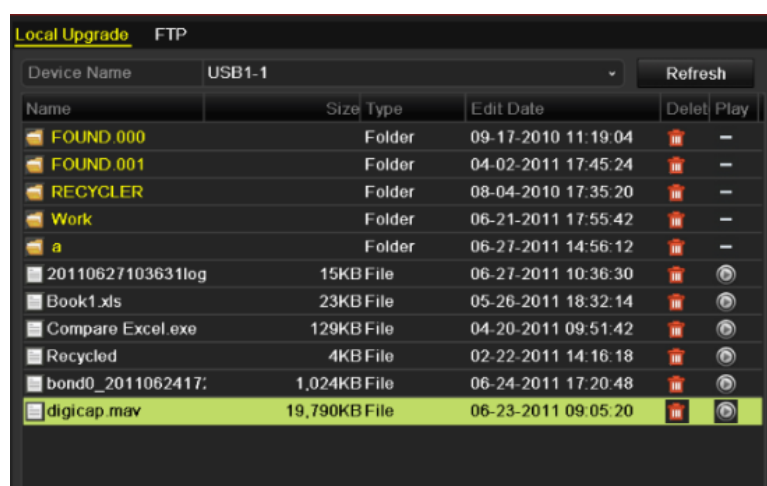

Figure 12.13 Local Upgrade Interface
3. Click the **Local Upgrade** tab to enter the local upgrade menu, as shown in Figure 12.13.